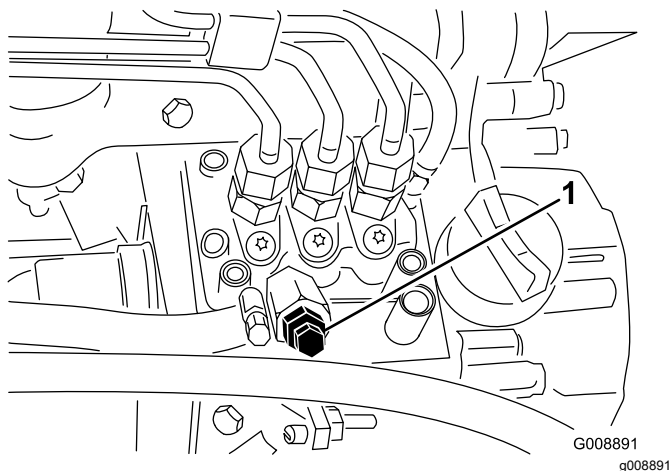

Figure 85
4. Open the air-bleed screw on the fuel-injection pump (Figure 85).